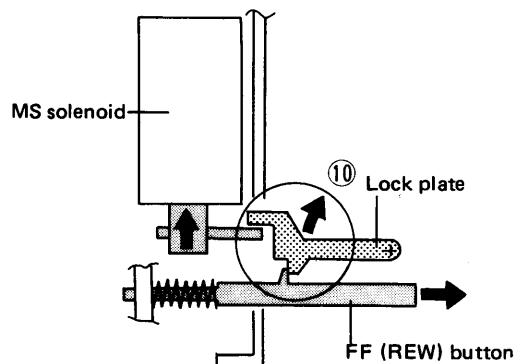

Fig. 15-12 FF (REW) button release
1. When the FF (or REW) button is pressed in the PLAY mode, the action of gear lever C returns gear lever B in the ⑧ direction (Refer to 15.8 FF (or REW) Operations) to free stopper C on the cam gear.
2. The cam gear rotates in the ⑨ direction until stopped by cam gear stopper C making contact with gear lever C.
5. The action of joint R (L) throws the lever switch to the ON side, and the driving arm moving in the ③ (or ④) direction starts reel base rotation in the FF (or REW) mode. (See also 15.8, FF (or REW) Operation, step 3).
6. When the tape blank detector circuit locates a non-recorded section of the tape, the MS solenoid is activated, pulling the lock plate in the direction of ⑩ (Fig. 15-12).